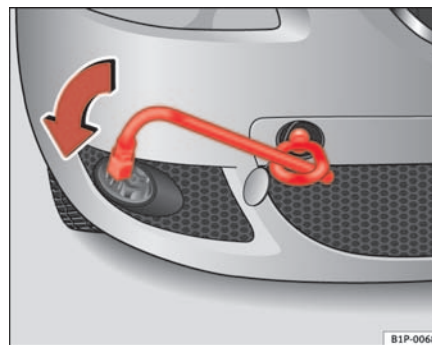
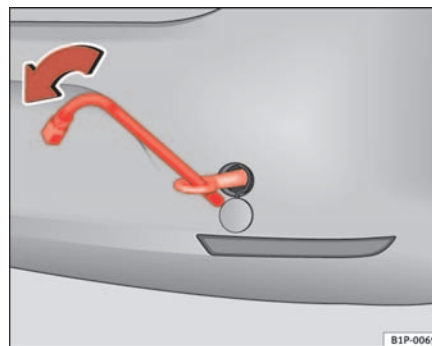

Fig. 173 The front right section of the vehicle: Fitting the front towing eye
Fig. 174 Fitting the towing eye to the rear of the vehicle
- Screw the towing eye as shown by arrow *anti-clockwise* to the limit position in the front ⇒ page 243, fig. 173 or rear ⇒ page 243, fig. 174 threaded hole.